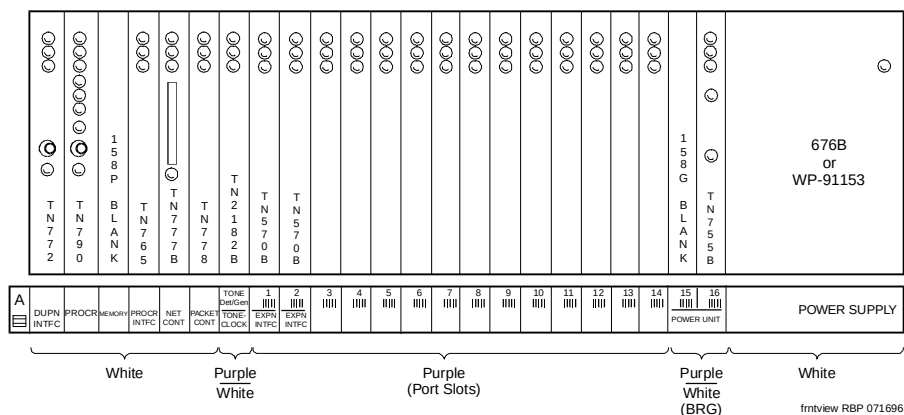

Figure 11-10. Circuit Pack Locations in Duplicated DEFINITY ECS R5si Control Cabinet
1. At each control cabinet, remove the combined TN786B/CPP1 processor/memory circuit packt (see Figure 11-10).
3. See previous WARNING. At each control cabinet, install the TN790 processor circuit pack into the control cabinet slot labeled "PROCR" (see Figure 11-10).